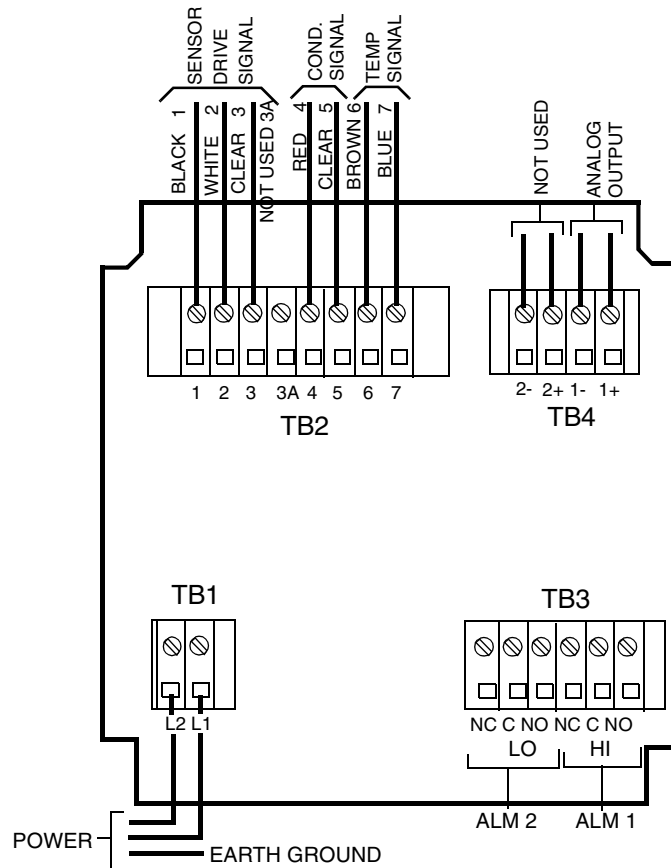

Figure 2. Rear Panel Wiring - Metal Enclosure
2. Connect ALM 1 and ALM 2 Alarm wires to terminal block TB3 as shown in Figure 2. Failsafe operation requires connections to be made between contacts NC and C. For details see “Wiring of Alarms” on page 21.
4. Connect sensor wires to analyzer terminal block TB2 as shown in Figure 2.
- Connect power wires to terminal block TB1 as indicated in Figure 2. The earth (ground) connection from the power cord should be connected to the ground stud located in the bottom of the case.